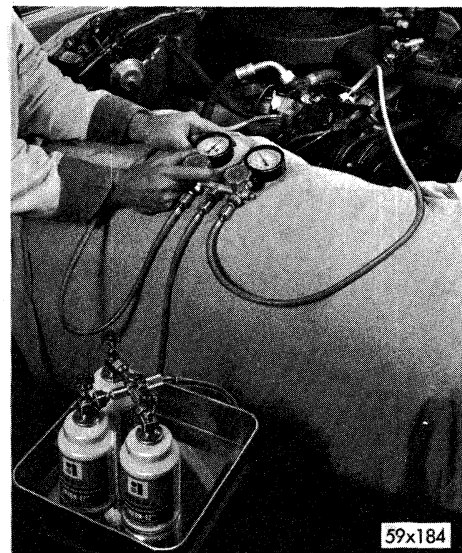

Fig. 143 — Servicing the Air Conditioning System
**NOTE:** Individual refrigerant 12 containers have been developed and are available for servicing the air-conditioning unit and can be interconnected or used individually, as shown in Figure 143.